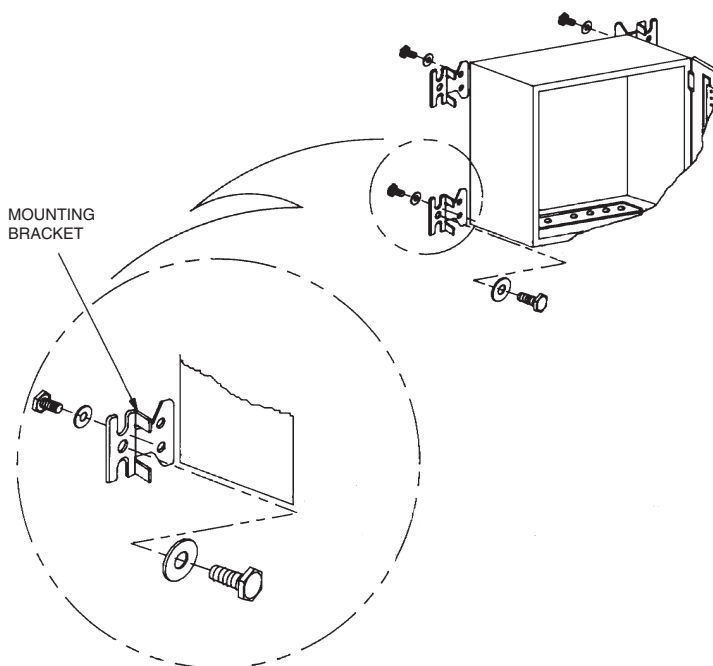

Figure 2-17 Mounting the NEMA 4 Housing
Four mounting brackets are provided, one in each corner of the RTU, for wall mounting the RTU housing (see Figure 2-15 through Figure 2-17). Figure 2-15 and Figure 2-16 show the distances between the bracket holes.
- 2) Using the brackets and the screws supplied in the plastic bag, fasten the mounting brackets, either horizontally or vertically, onto the four back corners of the housing. See Figure 2-17.
- 3) Mount the RTU onto the wall and secure with M4 screws (not supplied) with head size DIN 7981C/ST4, 2x38mm through the bracket hole. See Figure 2-17.